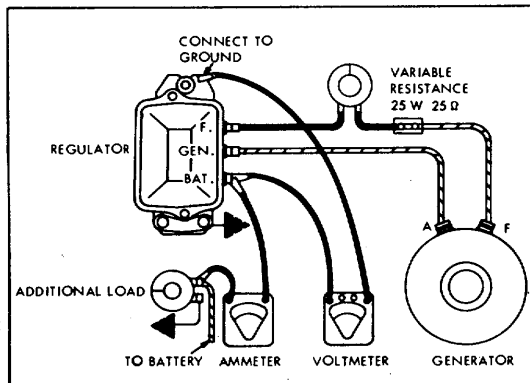

Figure 5-9. Current Regulator Test Setup
- (1) Connect ammeter into charging circuit, as in figure 5-9.